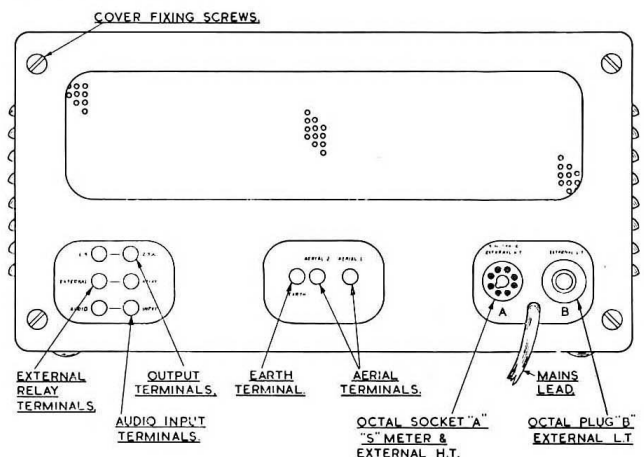

Fig. 2 Rear view of "888 A" Receiver in outline.
D.C. mains supplies are entirely unsuitable and if connected will cause serious damage. Ensure that the octal plug is in place in the octal socket "B" (nearest the side of the cabinet) as shown in the drawing, Fig. 2.
Balanced feeders are taken to the spring-loaded terminals marked "A1" and "A2" at the rear (see Fig. 2) and a short connection from a good earth made to the terminal marked "E." An unbalanced feeder (e.g. coaxial cable) is connected with the inner lead to "A1" and the outer screen to "A2," a jumper wire being placed across "A2" and "E." A single
The flexible lead from the meter terminates in an octal plug which should be inserted in the socket marked "A" in Fig. 2 at the rear of the receiver.
The switch can also be used to control associated equipment such as a transmitter. Leads from one pair of contacts are taken to terminals at the rear (see Fig. 2) and these contacts are closed when the switch is in the standby ("Off") position. Externally the circuit will consist of a relay and an energising source, usually 6 or 12 volts D.C. but some relays work on A.C. of both high and low voltages. This master relay can then be used, if desired, to control other relays carrying out such functions as automatic aerial changeover, monitor on/off, modulator supplies and so on.